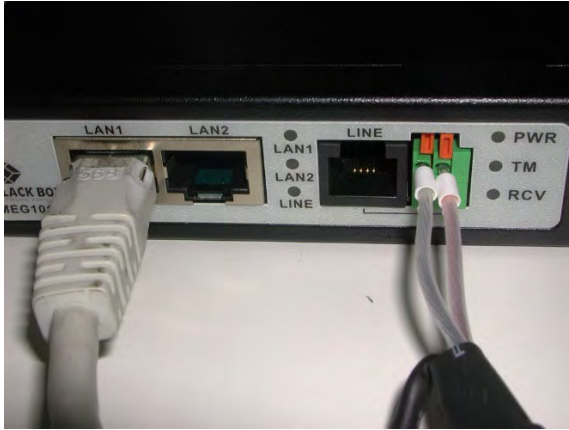

Figure 15 DSL connection.
One of the 3 IP addresses can be entered into a web browser (Figure 15) for communication with the device. Figure 20 shows the "Config Network" tab in the Internet browser Firefox. Changing the user IP address (3) requires superuser authorization in the device tab.